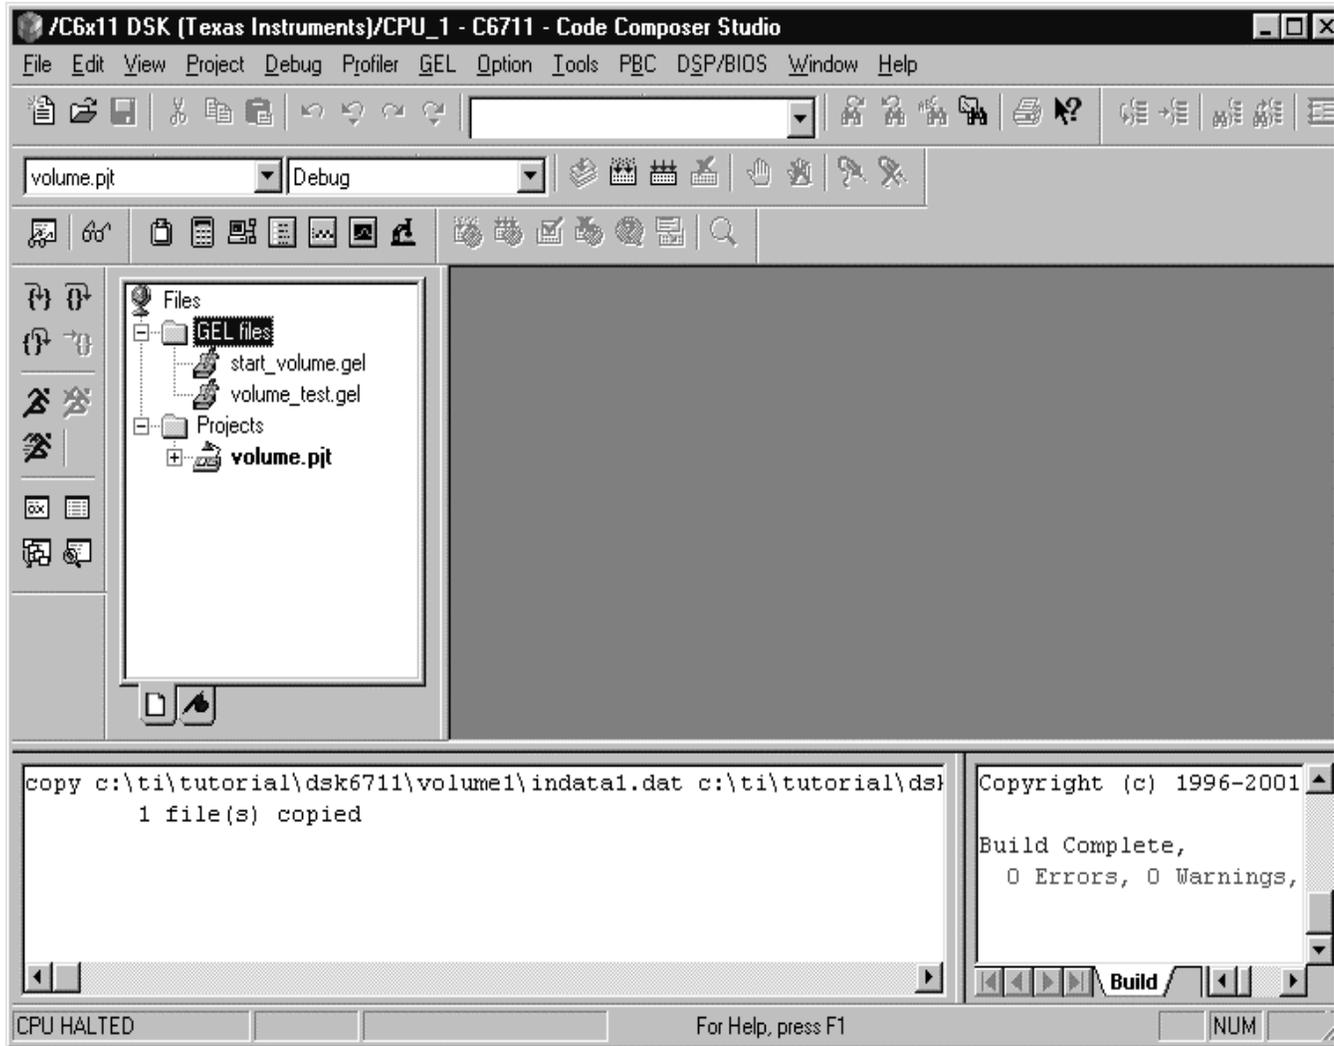

Figure 2. Startup View Using Custom GEL File
8. Go to File ⇒ Exit. A dialog box appears asking “Save changes to system configuration?”. Click Yes. Another dialog box appears asking “Start Code Composer Studio on exit?”. Click Yes. This launches CCStudio with the GEL file called at startup. Notice the features and verify the functionality of the automation. The GEL files load the volume project and copy `indata1` into `indata`. Your screen should look similar to Figure 2.